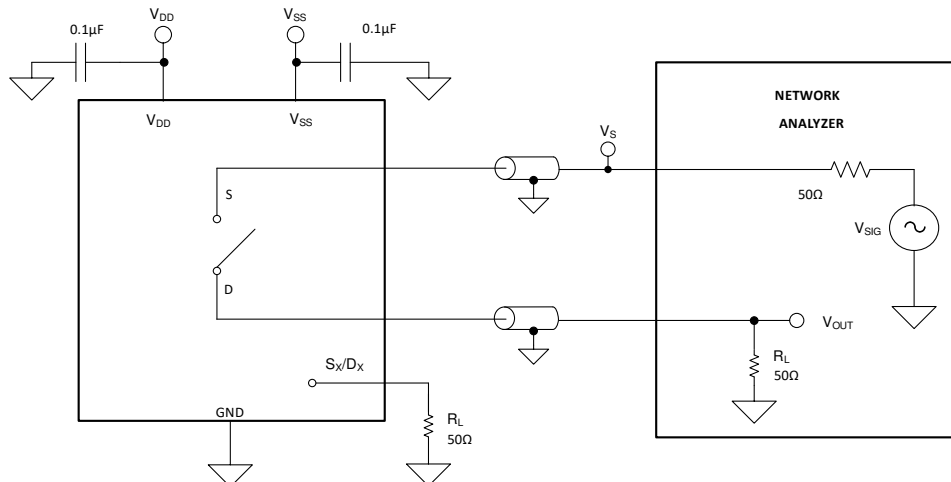

图 6-8. Off Isolation Measurement Setup
Off isolation is defined as the ratio of the signal at the drain pin (D) of the device when a signal is applied to the source pin (Sx) of an off-channel. 图 6-8 shows the setup used to measure and the equation used to compute off isolation.